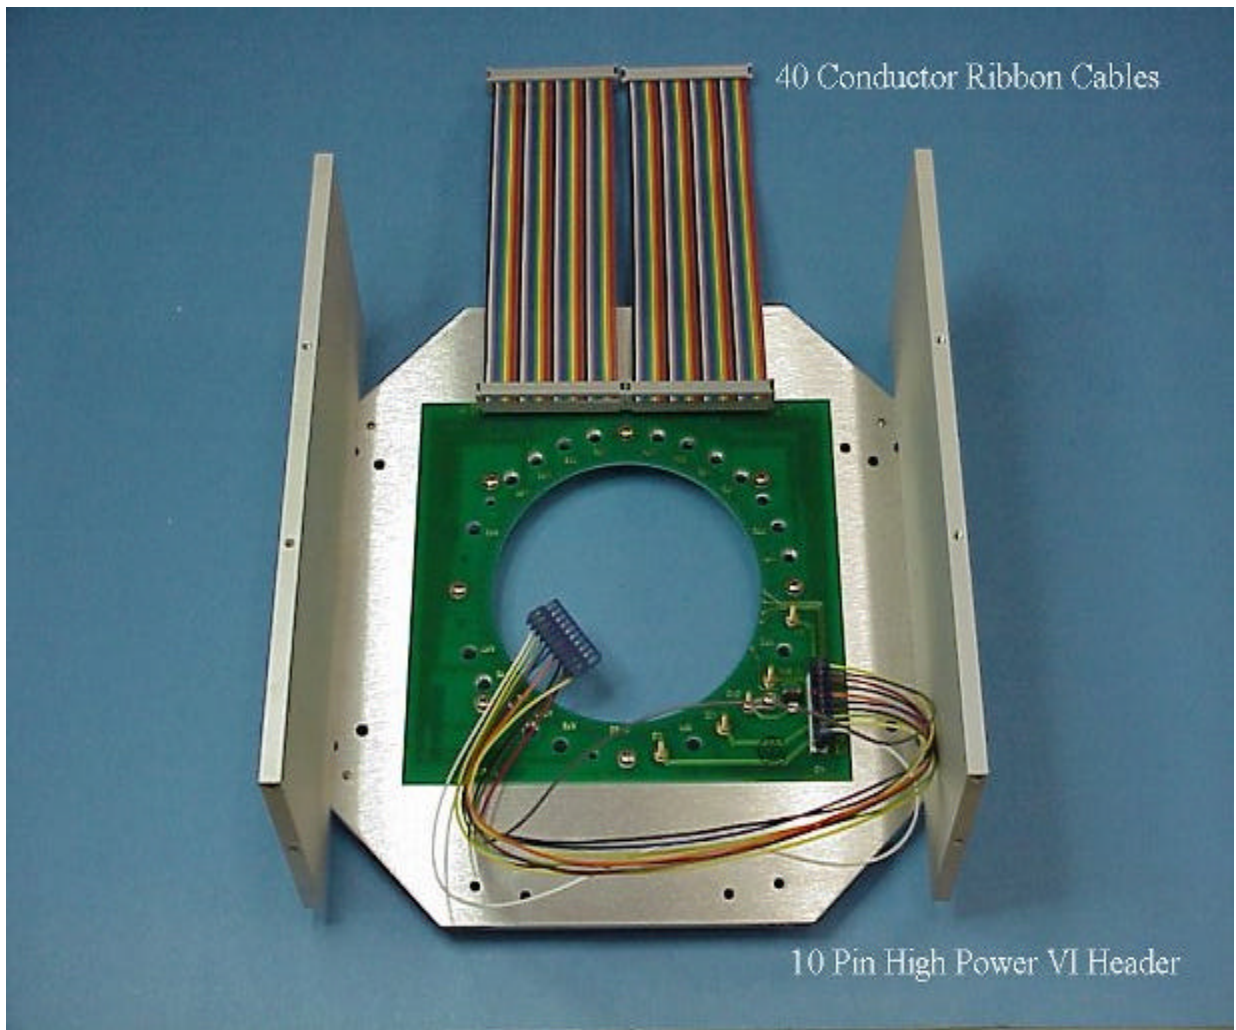

Figure 2
2. Install the two 40 conductor **ribbon cables** and the 10 conductor **power VI** cable as shown in Figure 2.